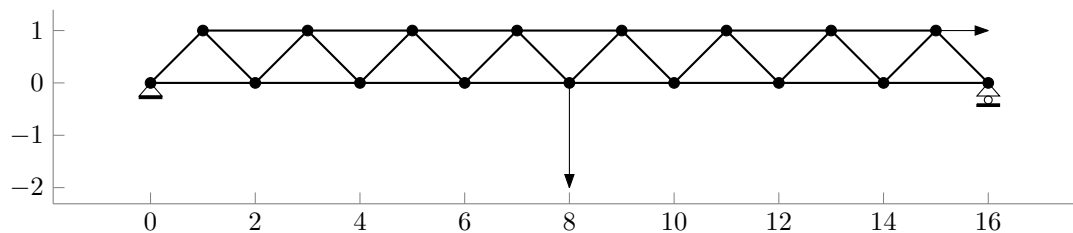

Figure 3: Warren truss
**Problem 6:** (10 points) Use the functions written in Problem 4 to solve for the nodal displacements and reaction forces of the Warren truss (Figure 3). Report the displacements of the node at the top right of the truss (node with the horizontal external force) and forces on the node at the bottom left of the truss (pinned